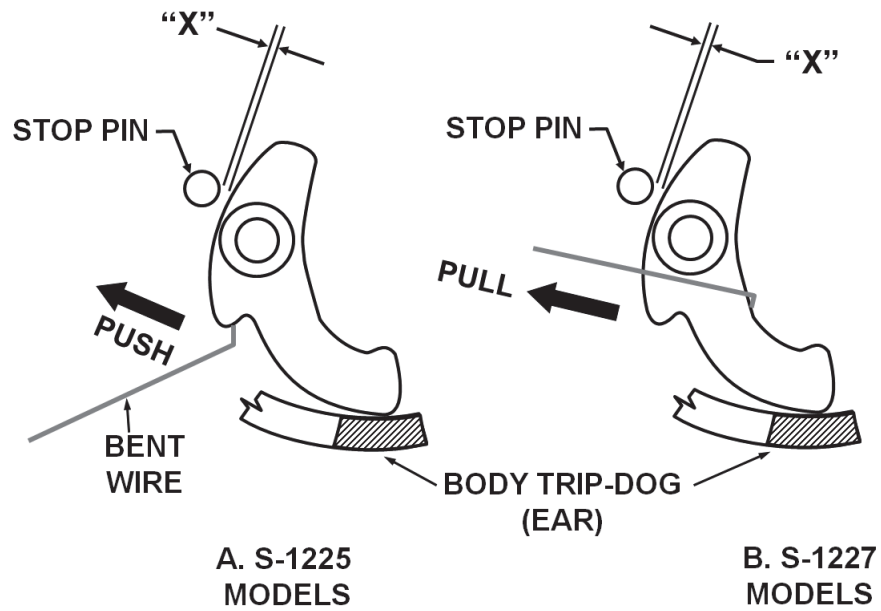

Figure 6-6. Flyweight to Axle Wear Check
- d. Insert a feeler gauge between the stop pin and flyweight to determine clearance ("X" of Figure 6-6) while the flyweight is forced outward. Maintain constant outward force on the flyweight while measuring clearance to ensure accuracy.